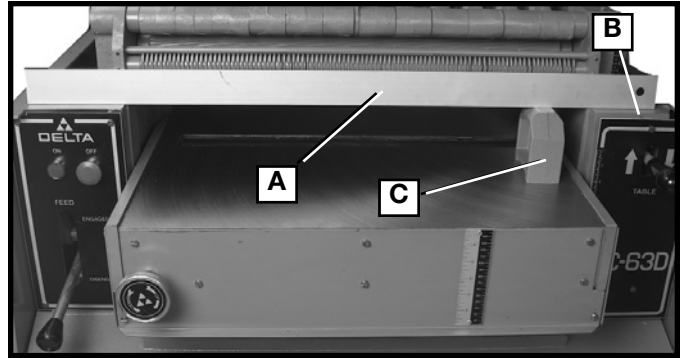
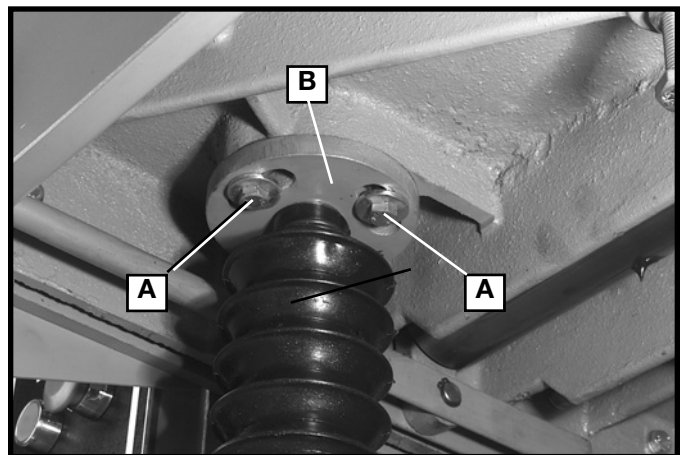

Fig. 21
Fig. 22A
3. Place a straight edge (A) Fig. 21, on the ground surfaces (B) of the planer, as shown.
4. Place the guage block (C) Fig. 21, on the table directly underneath the straight edge at one side, as shown, Raise the table until the guage block just touches the straight edge. Do not raise or lower the table any further until the adjustment for leveling the table is completed.
5. Move the guage block (C) Fig. 21, to the opposite (left end) of the table and check to see if the table is the same distance from the straight edge as on the right side.
7. If the table is low or high at any of the four points checked with the guage block in Figs. 21 and 22, locate the post directly underneath the end of the table that must be adjusted. Then loosen the three screws, two of which are shown at (A) Fig. 22A, and turn flange (B) to raise or lower the table at that end.